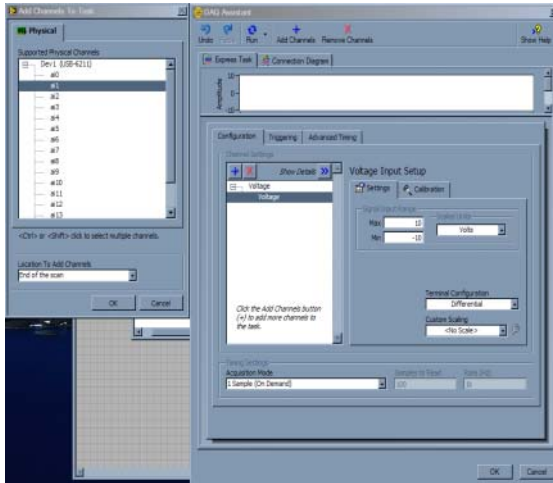

Figure 4: Choose a1 under My Physical Channels
Step 2: Insert the DAQ Assistant control (Right mouse click - Measurement I/O - NIDAQmx - DAQ Assist). Double-clicking the DAQ Assistant control in the block diagram will invoke the configuration screen. This time choose Analog Input and select Voltage. This will invoke the screen in Figure 4. Under the Terminal Configuration pull-down menu, select “Differential”. The minimum and maximum voltages should be -10 and +10 Volts respectively. Again, one should see the NI-DAQ USB-6211 card listed under “My Physical Channels”. Choose a1 (analog channel 1). Click OK to complete the configuration.